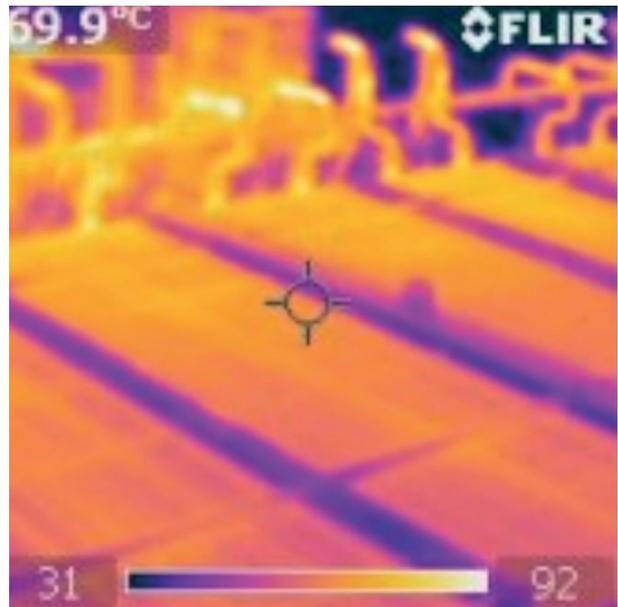

Figure 7. Scan of bundles with IR camera.
- Use of infrared camera for bundle overview (Figure 7).